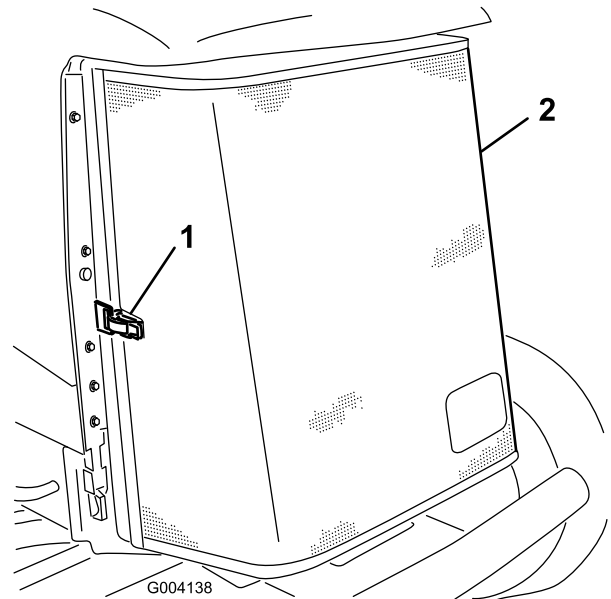

Figure 104
5. Unlatch the rear screen and pivot it open (Figure 104).